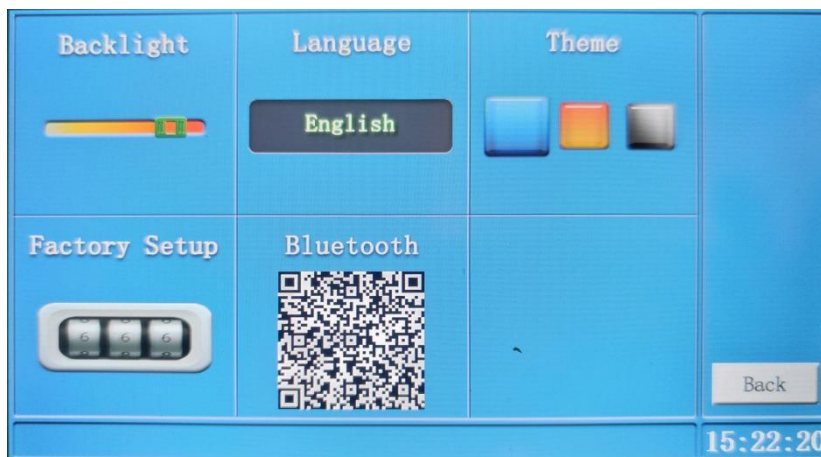

Figure 6
7. Click on System Settings in Figure 1 to enter the System Settings interface, as shown in Figure 6: